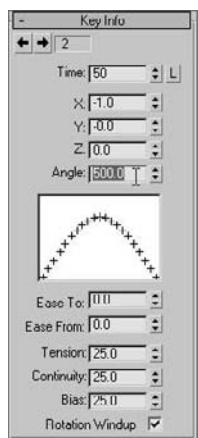

Figure 8.10
3. The Angle parameter should change to a value of 117.643 (your value may differ slightly). The *X* parameter value reads  $-1.0$ . The *X*, *Y*, and *Z* parameters represent the direction in the respective axes. The value  $-1$  means the square is rotating backward. Don't get confused because this value is now in *X* and not *Z*. Remember, you gave up the individual controls for *X*, *Y*, and *Z* when you changed from the Euler XYZ controller. While at this second keyframe, click Rotation Windup at the bottom of the rollout, and enter the value **500** for Angle. You must first turn on Rotation Windup to enter **500** for the Angle (Figure 8.10).